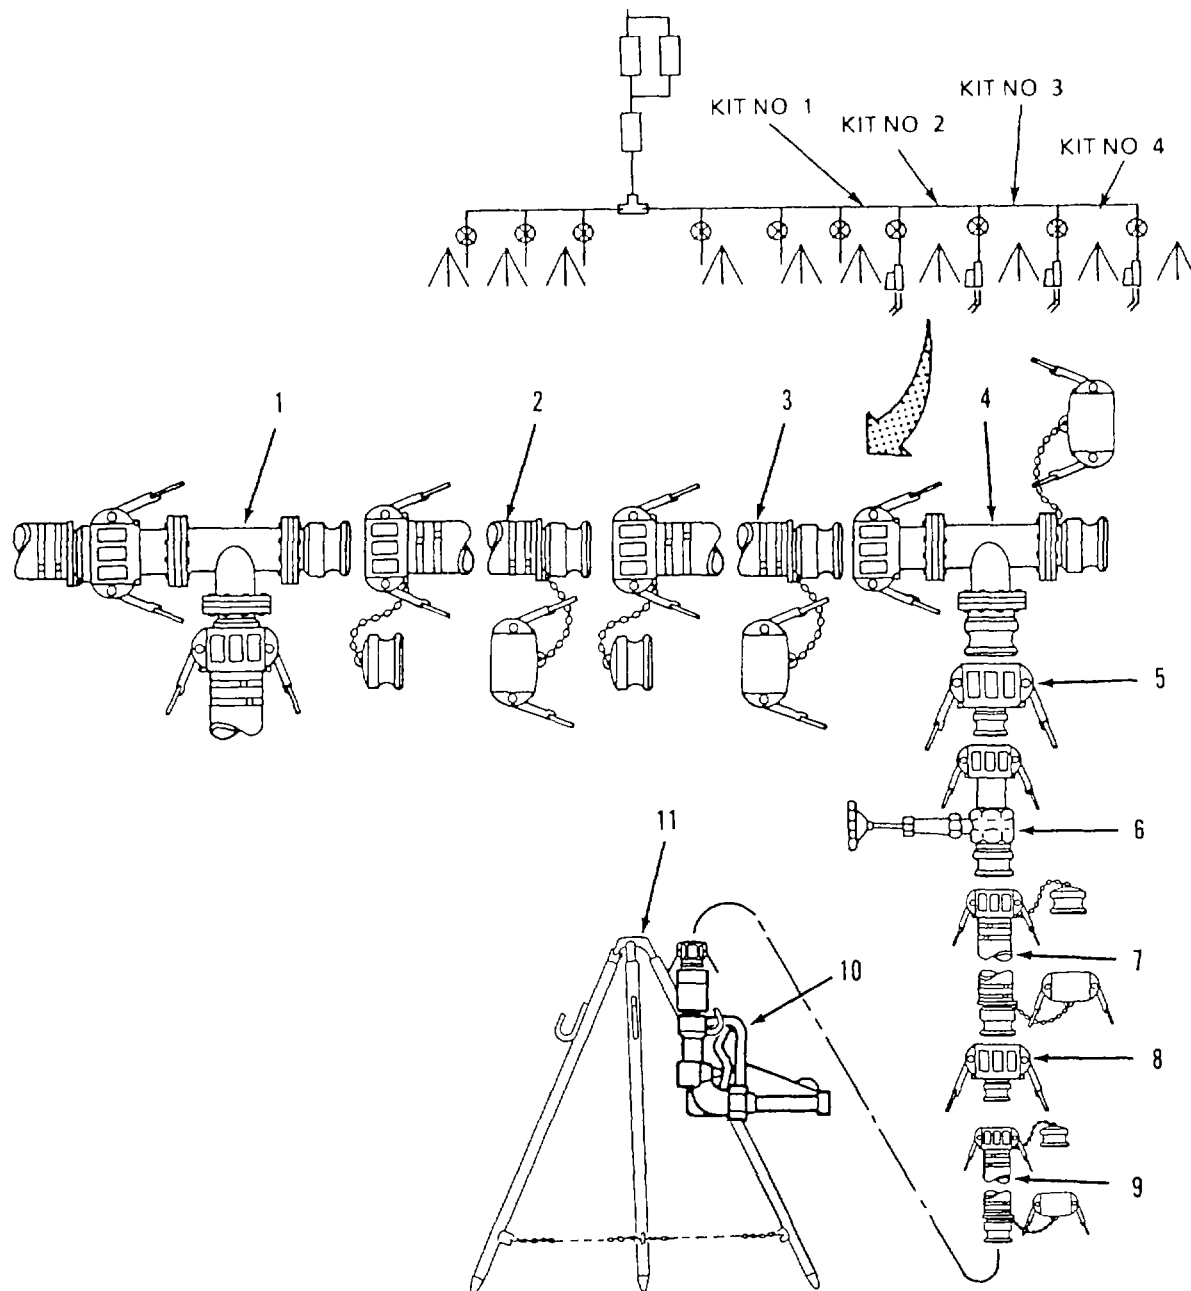

Figure 2-28. Hose Nozzle Connection Kit Disassembly
- (14) Disconnect 4 inch x 20 foot discharge hose (3) from 4 inch x 20 foot discharge hose (2).
- (15) Disconnect 4 inch x 20 foot discharge hose (2) from tee (1) (from hose nozzle connection kit no. 4).
- (16) Drain and allow components to dry
- (17) Install caps and plugs on component couplings (para 2-10c).
- (18) Roll all discharge hoses and secure with tape.
d. Disassemble Hose Nozzle Connection Kits. Refer to Figure 2-28.